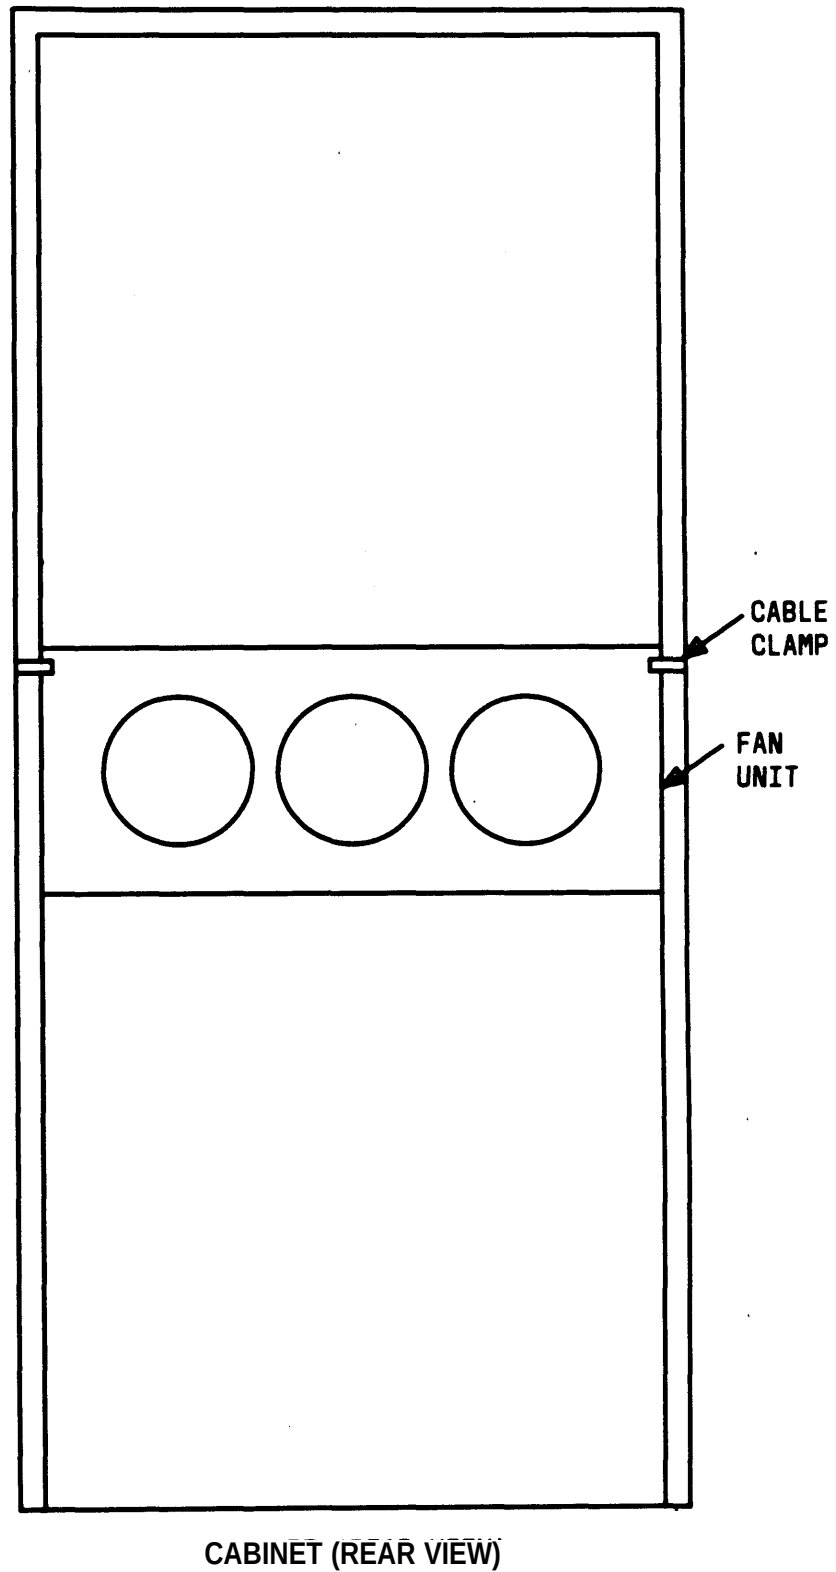

Figure 17. Location of 5-Carrier Cabinet Cable Clamps
25. Fasten two cable clamps (see Note) on rear of cabinet (see Figure 17).